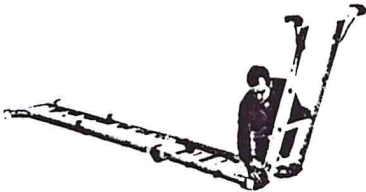

FIGURE 3.
- 3) Fold one end rail into position as shown in figure 3. Lock all hinges.